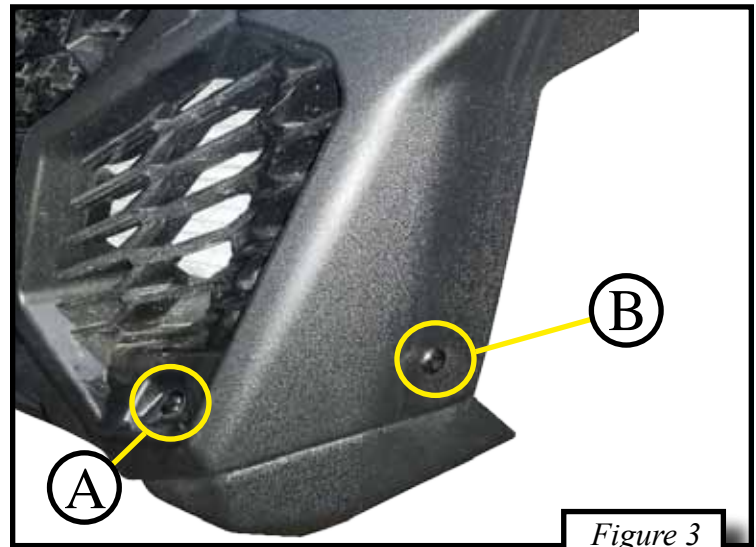

Figure 3
2. Remove two rear bolts (B), one on each side as shown in Figure 3.